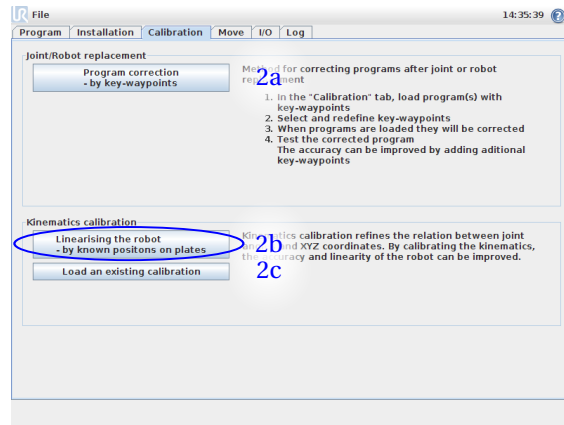

Figure 1.3: Select "Linearising the robot" to select this method.
- (2) This enables a new tab called "Calibration" in the normal program mode. In this tab three cases can be chosen, see figure 1.3.